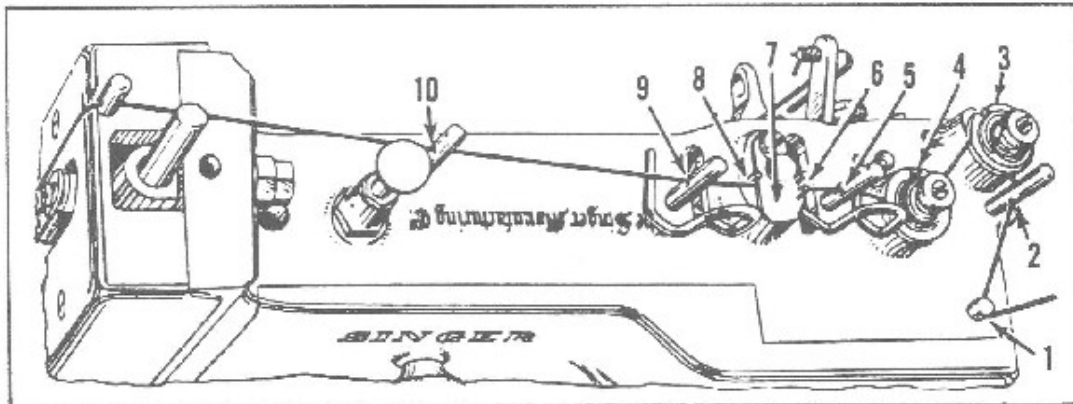

Figure 3-107
b. Install the needle. (See Figure 3-107 and 3-108)